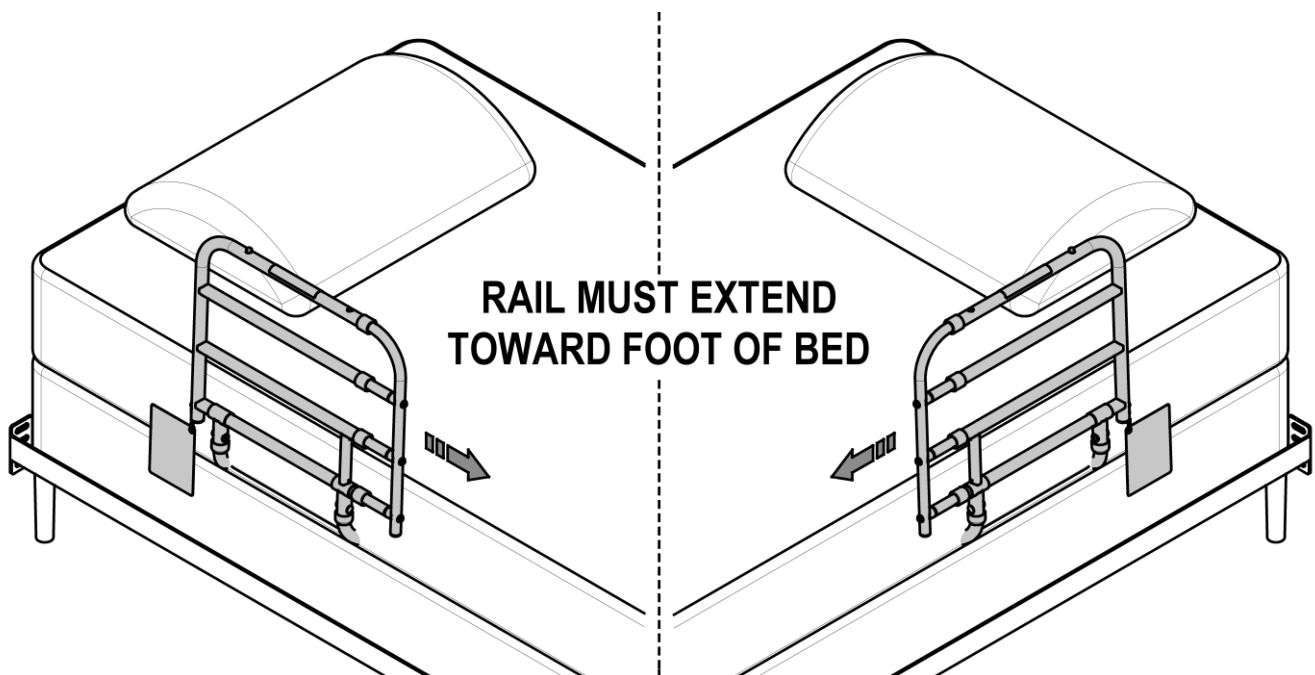

FIGURE 2
2. Determine which side of the bed the product will be installed on; the Extendable Side will always be closest to the *Foot of Bed*. Instructions show assembly for left image in *FIGURE 2*. For opposite assembly, reverse rail.